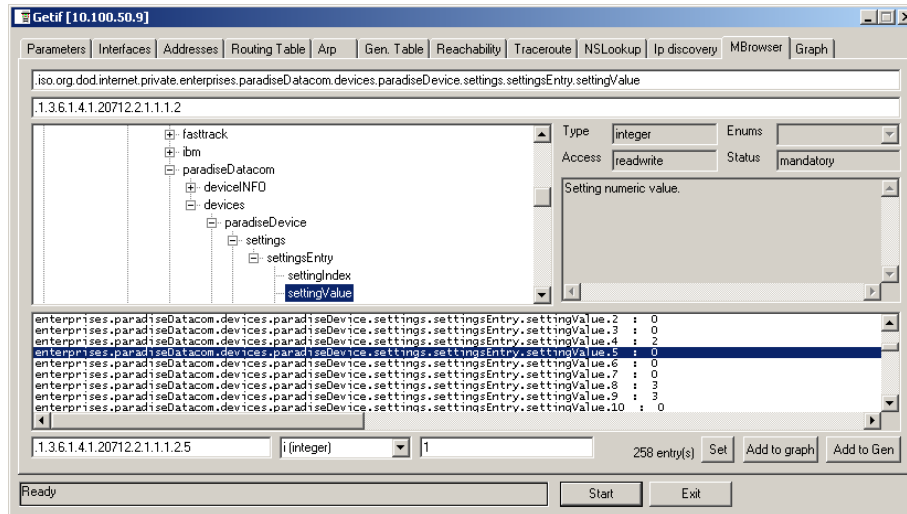

Figure 5-14: Getif MBrowser Window, Setting settingValue.5 to a Value of ‘1’
8. Observe the Mute state on the SSPA change to a “Mute On” state. See **Figure 5-14**.